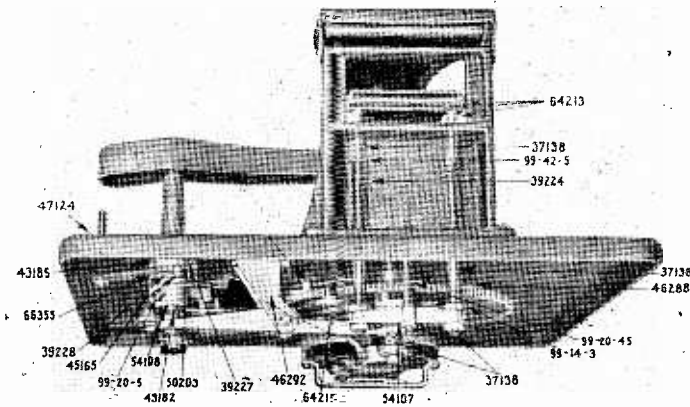

Fig. 6—Side View Farnsworth Model S-30
- A side view is given in Fig. 6. The corresponding part numbers are: